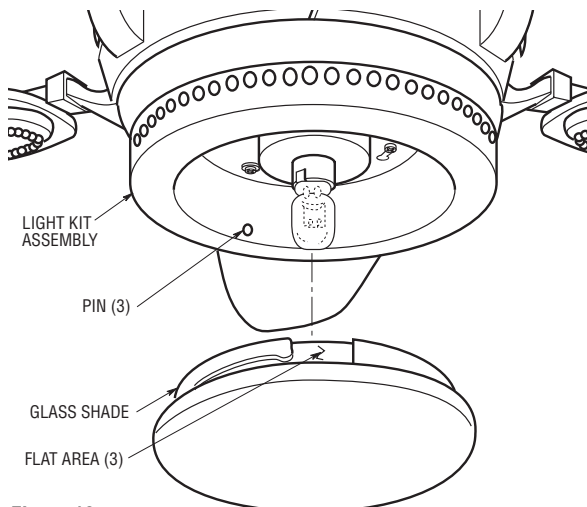

Figure 19
2. Place the glass onto the light kit assembly aligning the three flat areas on the top flange of the glass shade with the three pins on the inside of the assembly (Figure 19). Then turn the glass clockwise until it stops turning.